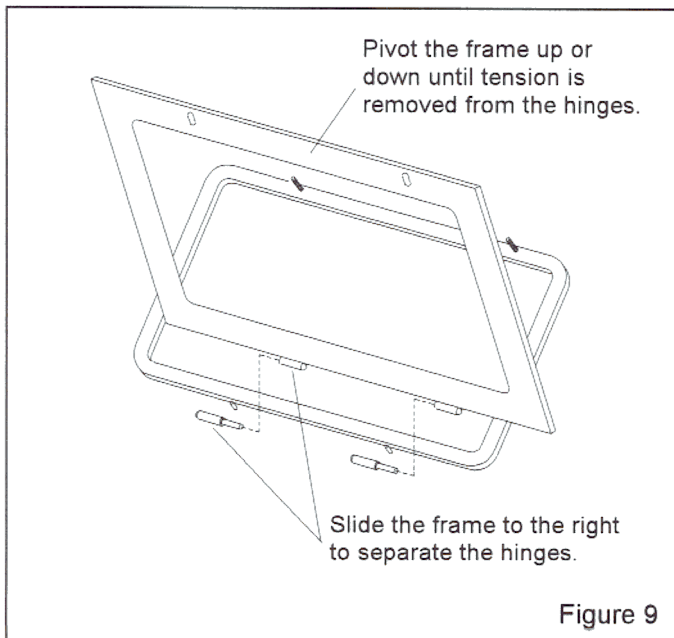

Figure 9
7.5 Window Frame Removal, Figure 9
7.5.4 Slide the frame to the right, to remove. The hinges separate as shown in Figure 9.